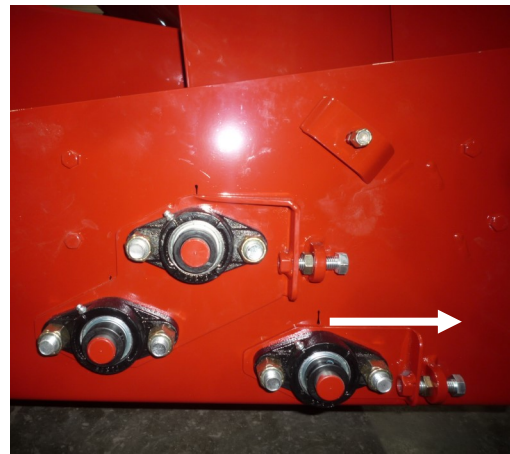

Figure 5.2
3. Keep the other two movable bearings equal with the fixed ones on the other side (Figure 5.2).